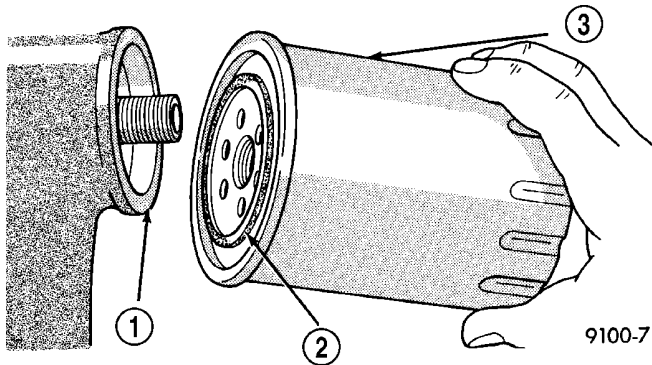

Fig. 75 Oil Filter Sealing Surface—Typical
- (1) Lightly lubricate oil filter gasket with engine oil or chassis grease.
- (2) Thread filter onto adapter nipple. When gasket makes contact with sealing surface, (Fig 75) hand tighten filter one full turn, do not over tighten.
- (3) Add oil, verify crankcase oil level and start engine. Inspect for oil leaks.